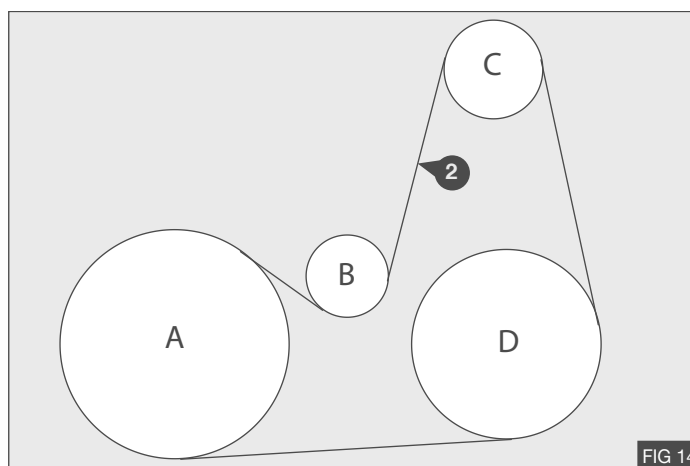

FIG 14
- Install the drive belt (2) as shown opposite – Fig 14